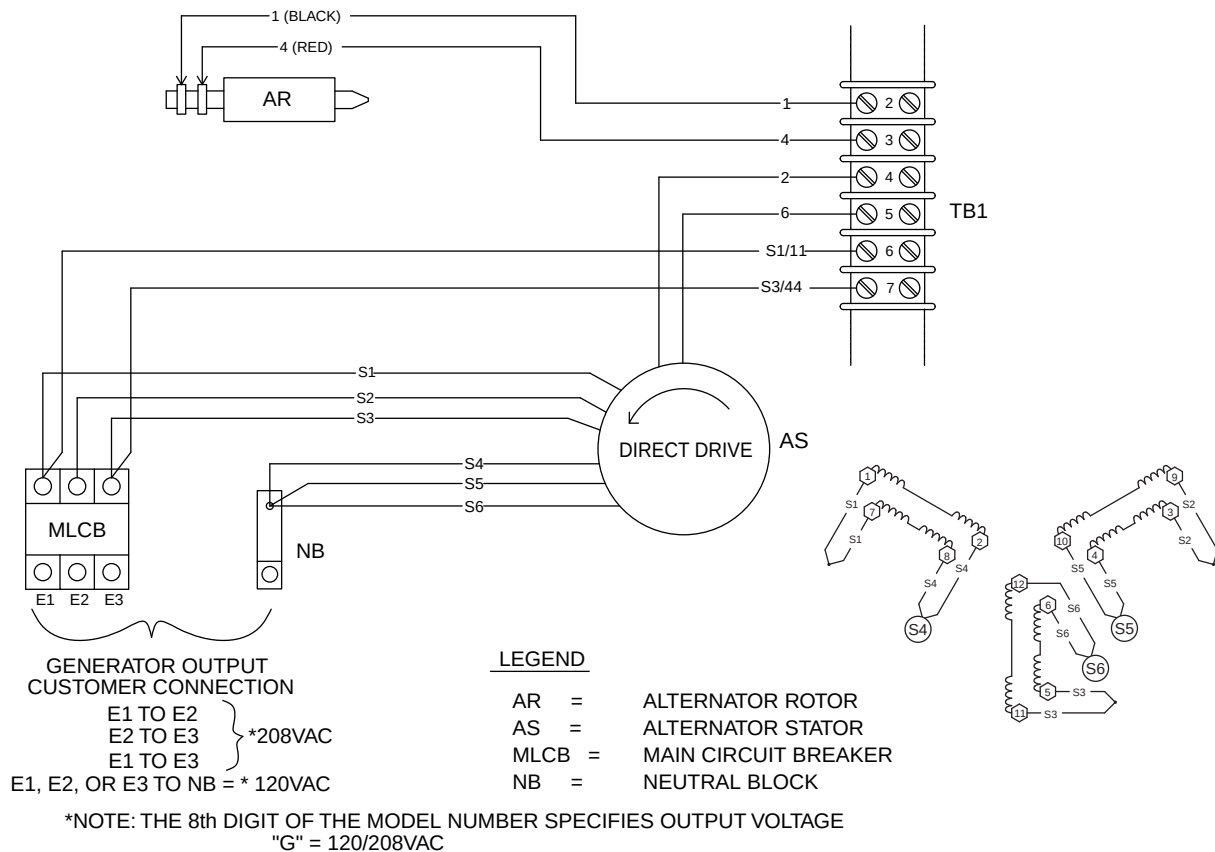

Figure 7. 3-Phase 208 VAC Stator and DPE Windings
1. Check Dip Switch positions. See Figure 7 in Section 2.1.